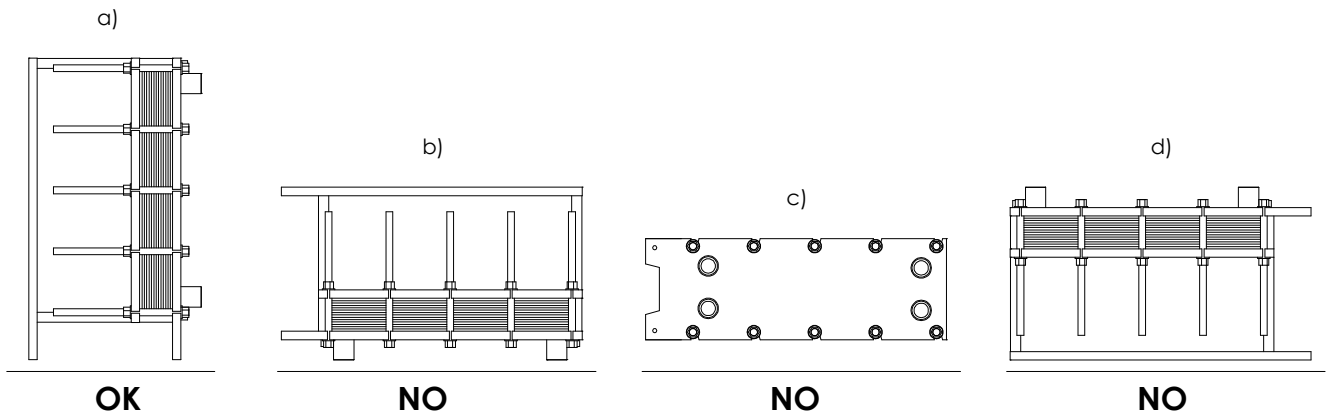

Fig. 33
1. Install heat exchanger vertically (see Fig. 33) leaving sufficient space for the purposes of maintenance operations, especially in front of the removable external plate.